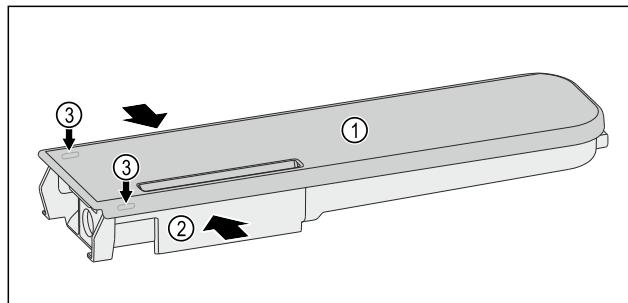

Fig. 151
- Push the water tanks Fig. 151 (2) together, leverage the cover Fig. 151 (1) carefully over the latching tabs Fig. 151 (3) and lift it up.
- Move the cover Fig. 151 (1) slightly forwards and back, and remove to the top.